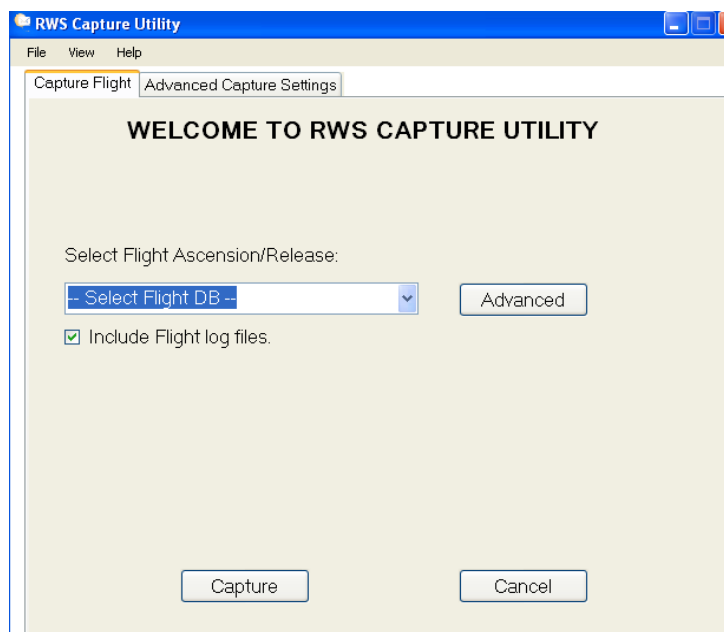

Figure A-24: RWS Capture Utility
2. Select the flight from the **RWS Capture Utility** pull-down menu (Figure A-24).